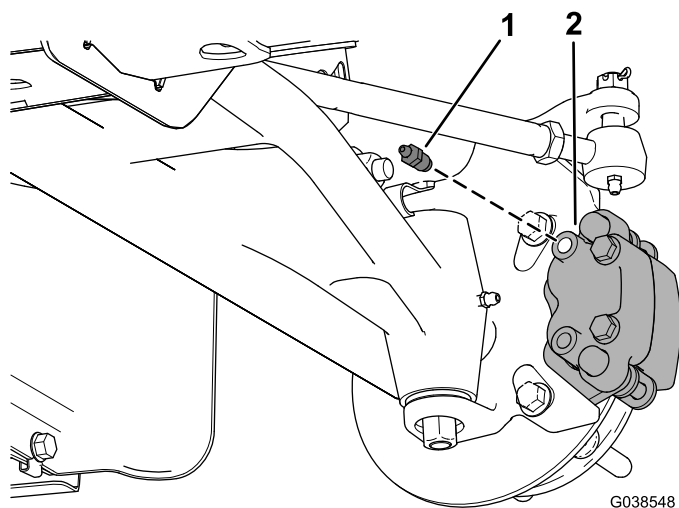

Figure 10
11. Install the bleed screw into the top hole of the brake-caliper assembly (Figure 10).